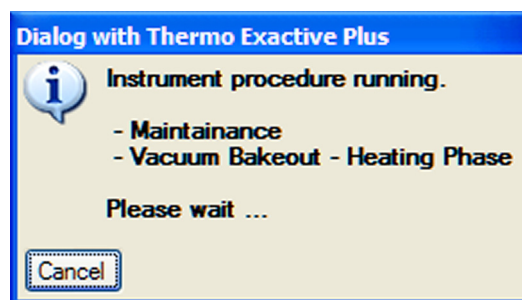

Figure 8-3. Message box: Vacuum Bakeout active
5. The dialog box disappears and the baking procedure starts. The instrument indicates the active bakeout procedure by a flashing Vacuum LED. (See Figure 3-2 on page 3-5.) Additionally, the Tune software displays a corresponding message box. See Figure 8-3.